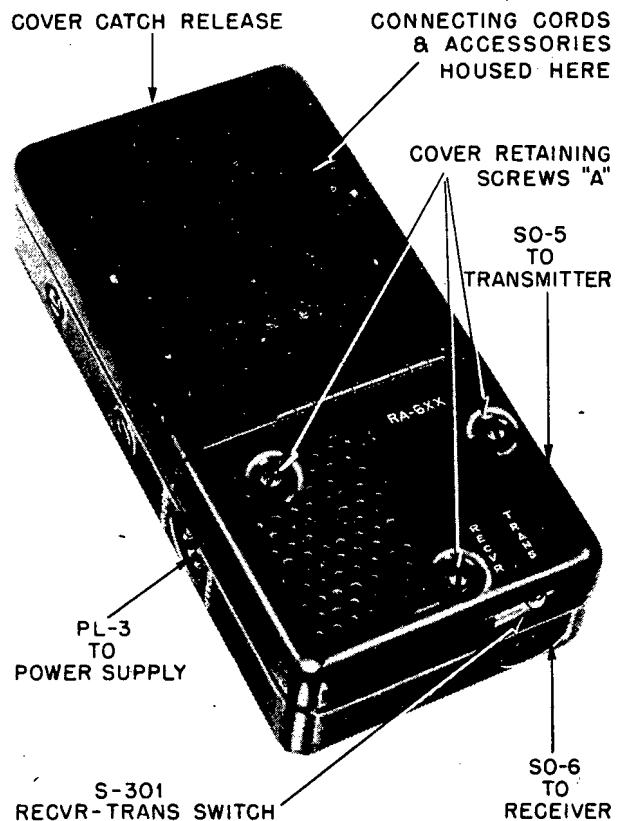

Figure 10. Filter-Accessory Unit RA-6-XX showing RECVR-TRANS switch
- (1) The dials are calibrated in megacycles.
- (2) The 3 to 7 mc markings are in blue.
- (3) The 7 to 16.5 mc markings are in red.
d. Set RECVR-TRANS switch on the Filter Accessory Unit RA-6-XX to TRANS. (See Figure 10).
a. Set RECVR-TRANS switch (Figure 10) on Filter-Accessory Unit RA-6-XX to RECVR.